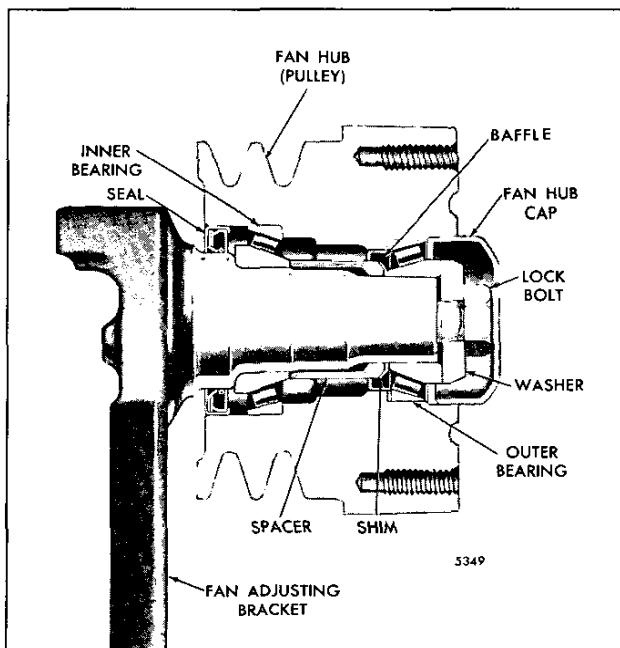

Fig. 5 - Shaft Type Fan Hub Assembly (6V Engine)
1. Refer to Fig. 5 and remove the fan hub cap.
To replace the shaft, remove the groove pin and press the shaft from the adjusting bracket. Press the new shaft in the bracket to the dimension shown in Fig. 5. Then, drill the shaft, using the hole in the bracket as a guide, and install a groove pin.
Assemble the fan hub and spindle shown in Fig. 5 as follows: